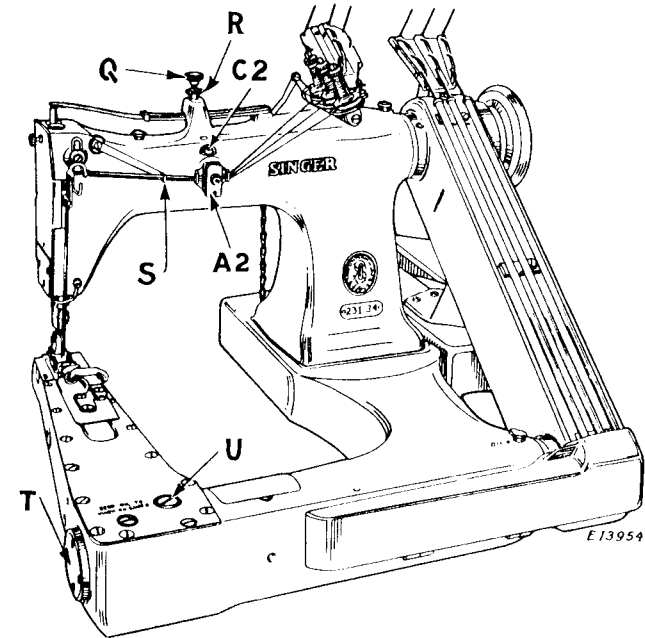
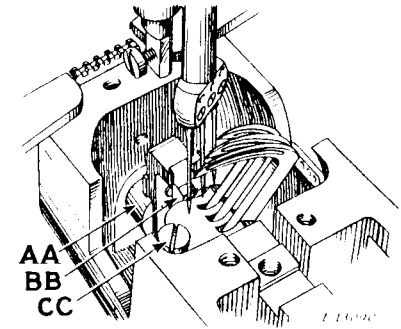
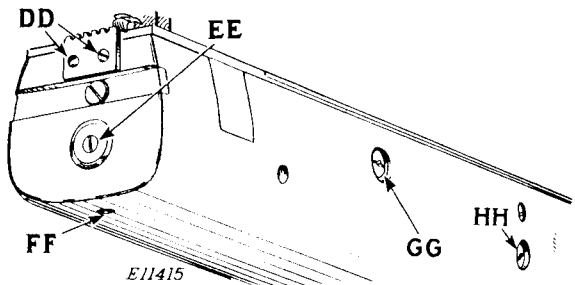
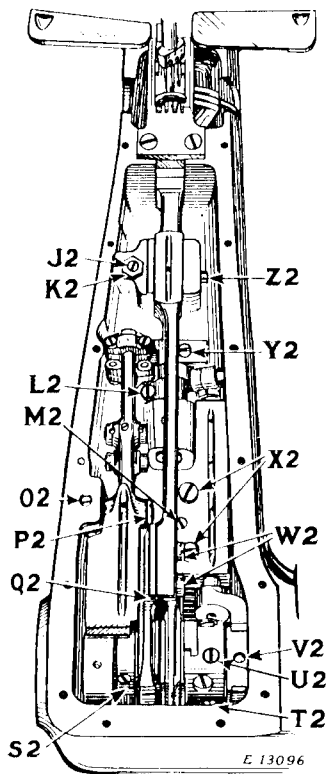

Fig. 13
Fig. 15
Fig. 16
Fig. 21
crease the pressure, loosen the lock nut (R, Fig. 13) and turn the thumb screw (Q) downward. To decrease the pressure, turn the thumb screw (Q) upward. Then tighten the lock nut.
The length of the stitch is controlled by the feed eccentric, which may be adjusted by removing the screw plug (U, Fig. 13) in
The loopers should be at the end of their backward stroke, with the points farthest from the needles, at the same time that the needle bar is at its lowest point. In this position, the point of the front looper should be about 9/64 inch from the center of the front needle. The loopers may be moved to this position after loosening the clamping screw (CC, Fig. 15). The looper timing is set by having the first (when turning toward the operator) of the two set screws in the looper eccentric (S-2, Fig. 21) bear against a flat on the shaft.
To adjust the eccentric, remove the cylinder arm cover and turn the balance wheel until one of the two set screws appears under the hole (V-2, Fig. 21). Loosen this screw about a quarter-turn, leaving it below the surface of the eccentric so that it will not score the inside of the bearing. Bring the other set screw under the hole, loosen it and leave the screwdriver in the slot to hold the eccentric while turning the shaft to obtain the desired adjustment.
To bring the loopers the same distance from the needles on their forward and backward strokes, they may be moved sideways on the looper shaft after loosening clamping screw (CC, Fig. 15).
The function of the needle guard (BB, Fig. 15) is to prevent the needles springing into the path of the loopers when the loopers are on their forward stroke. The needle guard should be set as close as possible to the needles without touching them. To set the needle guard, loosen the set screw (FF, Fig. 16) underneath the end of the cylinder arm and move the needle guard to the correct position.
When the feed dog is at its highest position practically the full depth of the teeth should project through the slots in the throat plate. The feed dog may be raised or lowered by turning the eccentric pin (GG, Fig. 16) a part of a turn in either direction. It is not necessary to lock this eccentric pin, as the necessary friction is provided by pressure of a set screw and lock nut inside the bed.
To remove the thread cutter blade for honing, take out the two screws (DD, Fig. 16).
The slack thread regulator (S, Fig. 13) should be set so that when the loopers are shedding the needle loops on their backward stroke, the thread will not snap off the points of the loopers nor be drawn through the tension discs with enough tension to break the thread.
The automatic thread nipper (A2, Fig. 13) at the front of the machine makes it possible to set the stitch tightly without using a heavy tension on the needle threads.
thread immediately after the loopers have cast off the needle loops on the downward stroke of the needle bar. To adjust the nipper, loosen the set screw (C2, Fig. 13) in the arm above the nipper plates and slide the nipper body inward or away from you for a greater opening of the plates, or outward for a smaller opening and earlier closing of the plates. When the desired adjustment is obtained, tighten the set screw (C2).
The set screw (T-2, Fig. 21) in the feed eccentric should bear against the flat on the shaft.
ball bearing hub, which is just to the left of the take-up. Loosen one of the set screws in the looper avoiding-motion eccentric (V-2, Fig. 21), but do not back the screw out far enough to score the bearing when the shaft is turned to bring the other set screw under the hole. Back out the second screw into the hole in the sleeve to hold the eccentric in position when the shaft is removed. Loosen the two set screws (T-2 and U-2) in the feed eccentric, also the two set screws in the feed lifting and looper motion eccentric (S-2). Remove the plate (T, Fig. 13) and take out the cap screw at the left end of the shaft. Withdraw the shaft, with the right bearing case, from the pulley end.
Remove the presser foot, throat plate and feed dog. Loosen nut (K-2, Fig. 21) and back out the friction screw (J-2) until the eccentric pin (Z-2) can be pushed out. Swing the feed bar upright and take out the two screws (W-2). Slide the feed lifting fork (Q-2) upward and off, then lower the feed bar to a horizontal position and lift it off the eccentric block.
Loosen screws (EE and FF, Fig. 16), remove the needle guard and the needle guard holder (AA, Fig. 15). Loosen the clamping screw (CC, Fig. 15) and remove the looper holder from the looper shaft. Loosen the clamping screws (L-2 and Y-2, Fig. 21) in the looper driving arm and the adjustable collar. The looper shaft may be withdrawn through the needle guard holder opening at the looper end of the bed.
To remove the looper driving mechanism complete, first remove the lower rotary shaft. Loosen the set screw (O2, Fig. 21) and drive out the top pin (P2). Loosen the two set screws in the collar directly under the pin (P2), and the set screw (M2), then unscrew the lower pin (HH, Fig. 16). The entire assembly may now be lifted out.